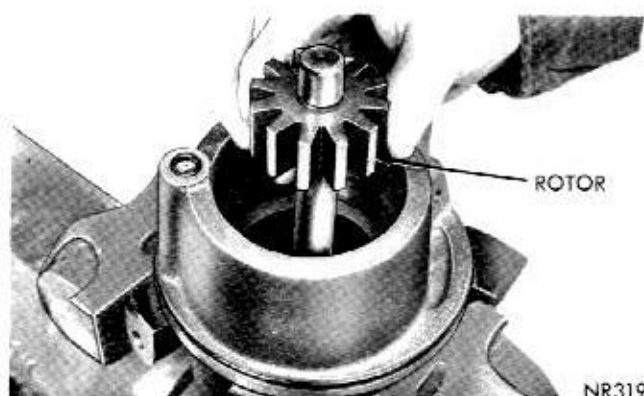

Fig. 28—Installing Rotor
(8) Install rotor and shaft in cam ring and carefully place 12 rollers in cavities of rotor (Figs. 28 and 29). Lubricate rotor, rollers, and cam I.D. with power steering fluid.
(9) Before installing pressure plate, rotate shaft by hand to make sure rollers are all seated parallel with pump shaft.